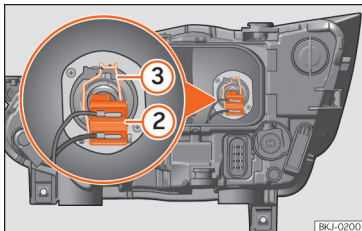

Fig. 103 In the engine compartment: dipped beam lamp.
- Remove the bulb connector »» Fig. 103 ②.
- Unclip the retainer spring »» Fig. 103 ③ pressing inwards to the right.